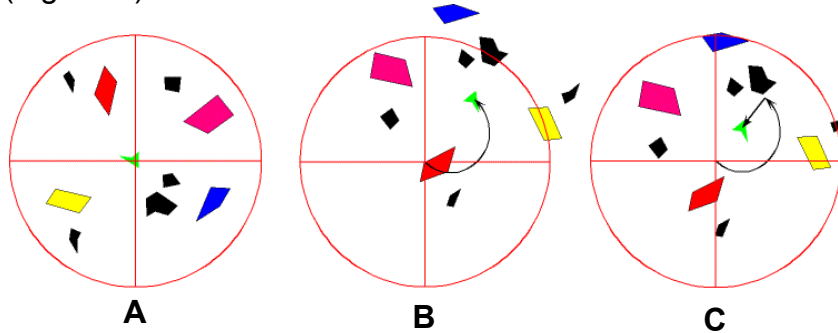

Figure 3: Principle of stage centering
Please refer to Fig. 3 for details:
- Choose a point in the slide and bring it to the center of the crosshair (Fig. 3: A).
- Rotate the stage counter-clockwise till the point will be found in the “two hour” position (Fig. 3: B).
- By turning the two milled knobs controlling the stage, move the point till it is found halfway between its previous location and the center of the crosshair (Fig. 3: C).